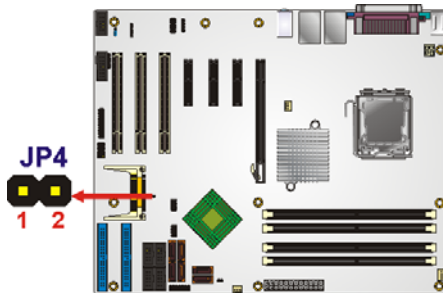

Figure 0-9: CF Card Setup Jumper Location
- Jumper Location:** See **Figure 0-9**
The CF Card Setup jumper location is shown in **Figure 0-9**.